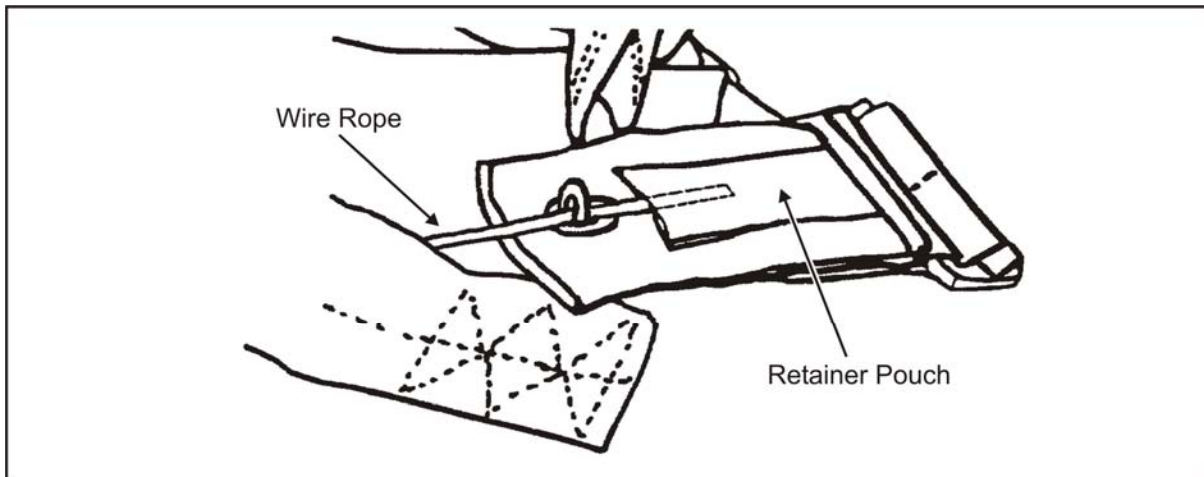

Figure 5-24. Leg Strap Cable Retainer With Buckle and Grommet
- Runs the wire rope of the single-action release handle between the webbing handles (Figure 5-24, page 5-23). Then he runs the wire rope through the red 550 cord and into the retaining pouch of the leg strap cable retainers with buckle and grommet. **NOTE:** The dotted line represents the wire rope hidden within the retainer pouch.